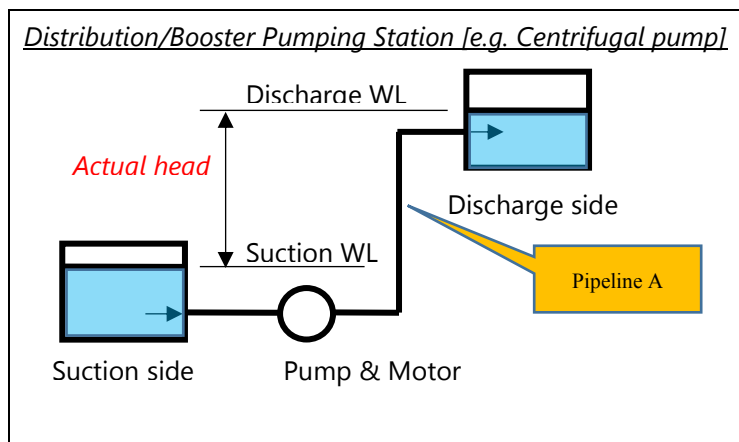

Fig 2 Actual head examination
**When site condition for booster pump station is shown below, how much total head is required for the pump (Fig 2).**